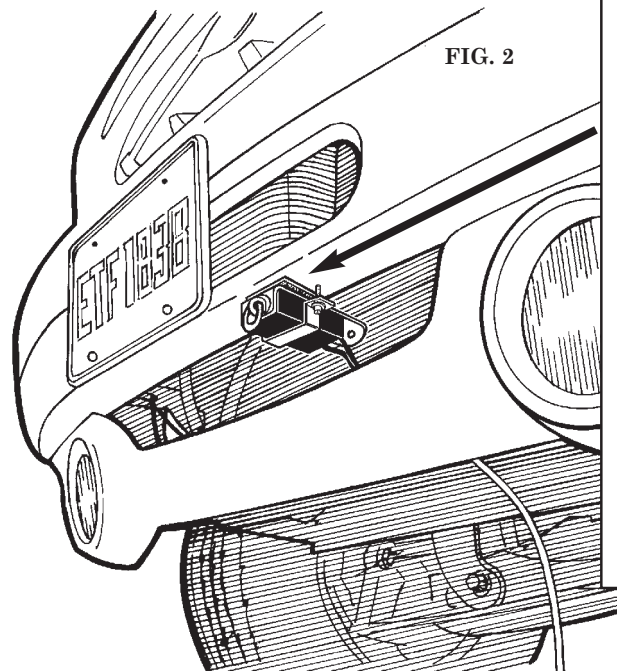

FIG. 2
1. Find a convenient, sturdy place on the front of your towed vehicle to mount the junction box (B). This should be installed on the driver's side of the vehicle if possible.
2. Clean the mounting surface and attach the velcro patch (J) (Fig. 2).
3. Attach the junction box (B) to the velcro patch (J) so the pin with the ring faces forward and the wiring harness feeds back into the engine compartment.
4. Place the mounting bracket (C) over the junction box (B) and mark the hole locations to be drilled and tapped.
5. Remove bracket (C) and junction box (B). Drill marked holes with a 1/8" metal drill bit.